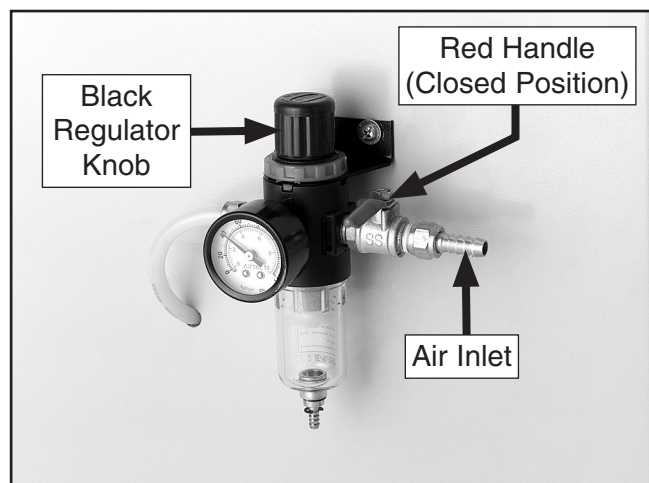

Figure 7. Air inlet and regulator components.
1. Connect hose from air compressor to air inlet (see **Figure 7**) on regulator.
3. Lift black regulator knob (see **Figure 7**) and turn it until air pressure gauge reads 75 PSI.